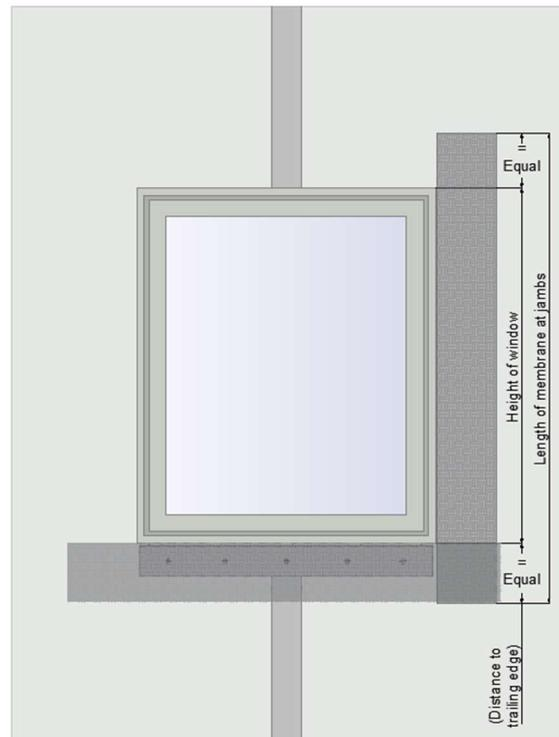

Figure 7
- To determine the length of membrane for the jambs, measure the window height. Then the excess is calculated by measuring the distance from the bottom edge of the sill /window frame to the trailing edge of the sill membrane. This excess is then added to both the top and the bottom of the membrane length (Figure 7).